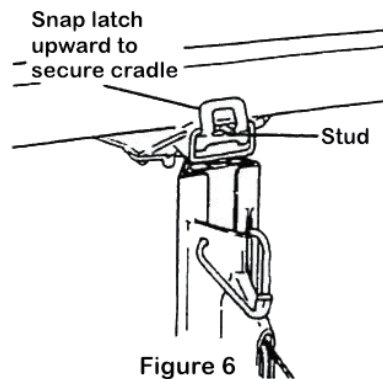

Figure 6
6. Attach the cradle to the frame (Figure 6):